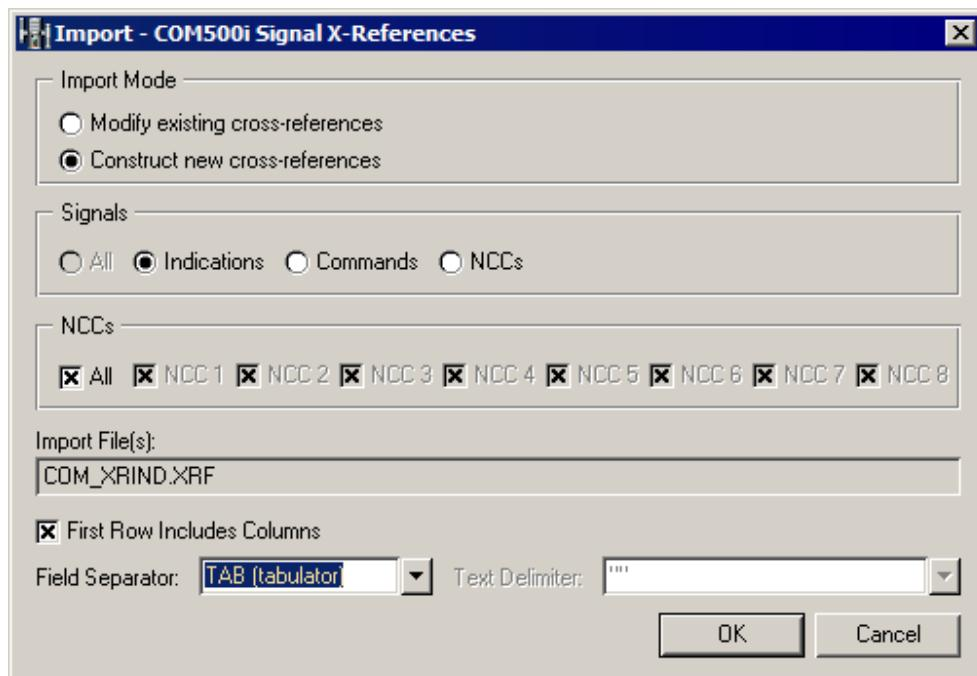

Figure 56: Import dialog of Signal X-References
5. Select **File/Import** in Signal X-References to open the **Import ComTool** dialog (see Figure 56).